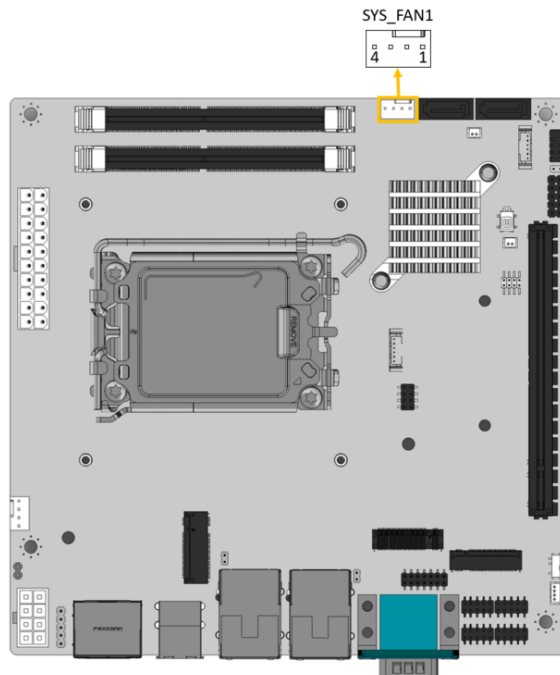

Figure 3-8: System Fan Connector Location
- CN Location:** See **Figure 3-8**